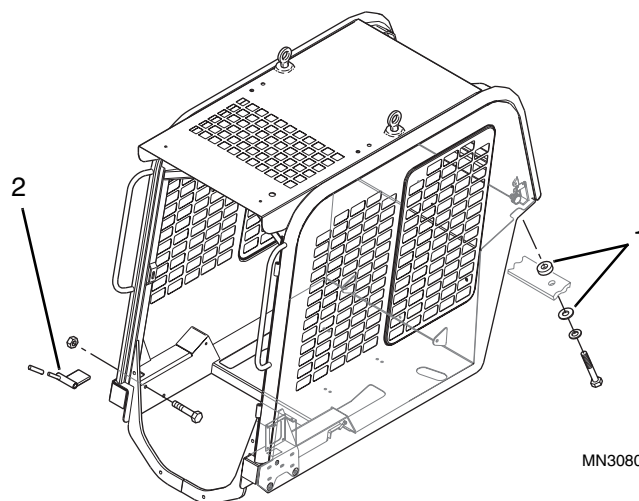

Figure 9-30 Operator Protective Structure
2. Check the condition of all neoprene isolator washers (Fig. 9-30, 1) and tilt lock latch (2). Replace if damaged.